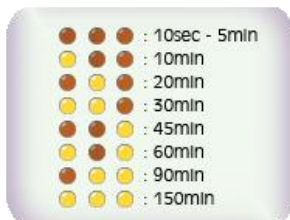

Figure 3 – Mapping table combination Led, with maximum continued flow time (MCFT).
MCFT table:	8 different options (Figure 3).
M.C.F.T.:	(for 6secs after push the B1): Depiction the MCFT limit, the completion of, trigger an alarm (Figure 3).
Pressing, appear the MCFT, for 6 seconds. The presentation is via the indicative 'Alarm Time' LEDs. At the corresponding table (Figure 3), appear the relationship of the LEDs with the MCFT. There are eight (8) value from 5-150 minutes.